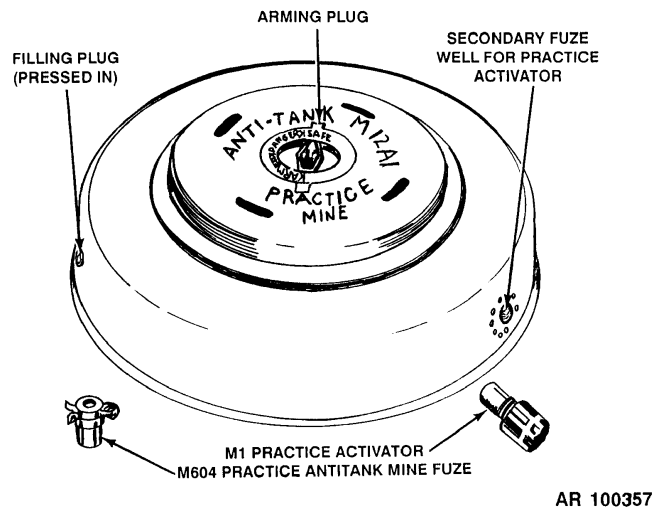

Figure 1-16. Mine, antitank, practice: heavy, M12A1.
(1) Mine (fig. 1-16) is a flat, cylindrical, steel casing, approximately 3-1/2 inches high and 13-1/4 inches in diameter, similar externally to service mine M15 (except for height). It differs chiefly in having one filler hole in the side and perforations in top and around side secondary fuze well. Mine may be boobytrapped by installation of one or two secondary fuzes, each consisting of practice antitank mine activator M1 and any regular-type firing device having 9/16-inch threads. Although inert, mine has a smoke charge and primer M45 in main fuze M604. Mine is issued empty with arming plug M4 assembled, but without primary or secondary fuze. It may be loaded with sand or inert filler in the field.
(2) A minimum force of  $565 \pm 174$  pounds depresses the pressure plate and the belleville spring of the fuze, which causes depression of the arming plate shutter (Armed position). Depression of the shutter, in turn, depresses the pressure plate and belleville spring of the fuze. Belleville spring of the fuze snaps into reverse, driving the firing pin into the igniter charge of the fuze. The igniter charge of the fuze ignites the smoke composition. The smoke composition explodes, emitting a cloud of smoke and creating a noise.